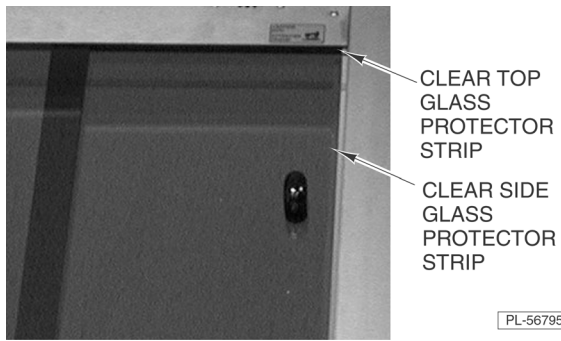

Fig. 36
- Install clear glass protector strips onto each sliding glass door (Fig. 36). (All models)